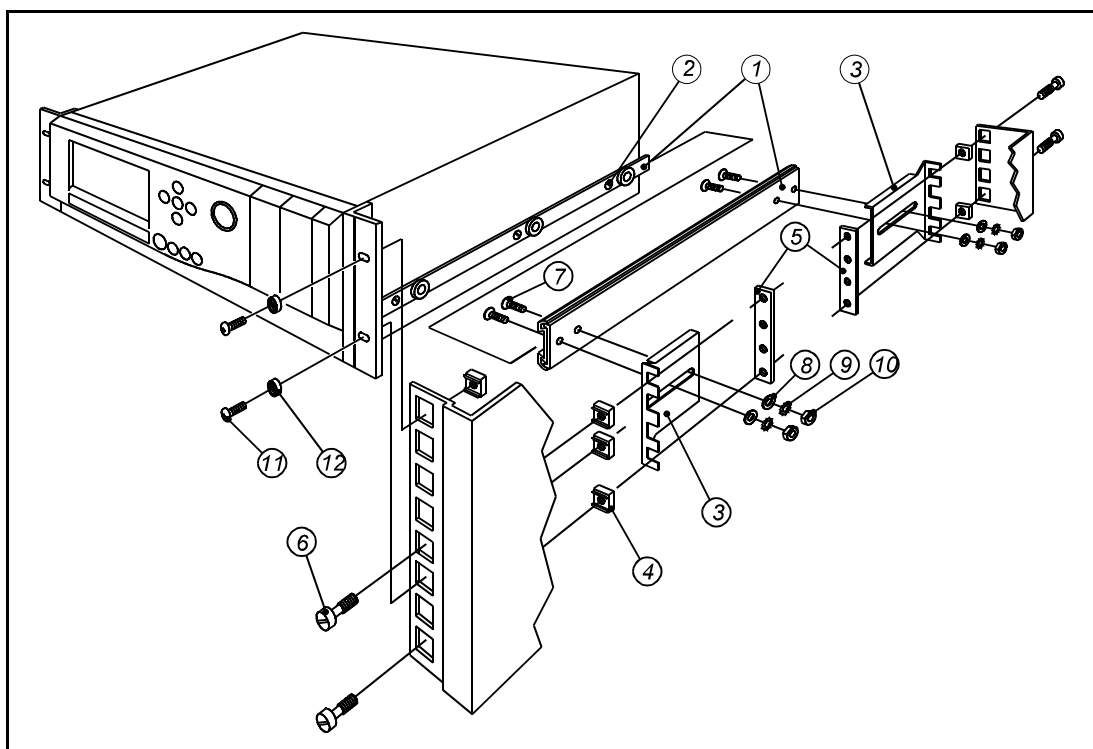

Figure 2.3 Rack installation exploded view
- Rack mounting slides and kit of parts (See Figure 2.3).
See Figure 2.3 and Table 2.1. The 19" optional rack slide mount version is supplied with a mounting kit which includes either long or short slides and rack mounting brackets. Do not attempt to support or carry the analyser by the rack mount brackets. The analyser is suitable for installation in most standard rack types including Schroff and Rittal